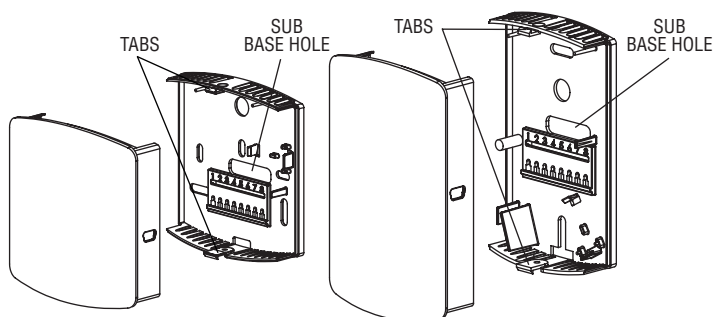

Figure 1
1. Push tab on top and bottom of the back plate and lift the cover from the back plate. (See Figure 1).